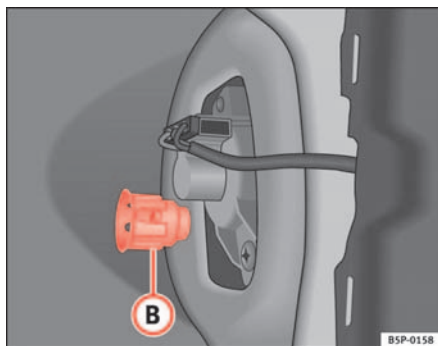

Fig. 189 Side lights and brake lights
- Unscrew the plastic fitting ⇒ fig. 189 (B) securing the rear light. Inserting a screwdriver under the plastic fitting may help to loosen it.